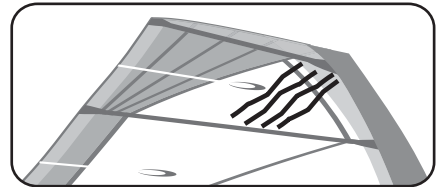

Figure 9: Downhaul just until the diagonal wrinkles disappear.
a) Before downhauling, observe the diagonal wrinkles in the Tri-Lite cloth between the upper two battens. These wrinkles are located in front of the upper leech stabilizer (figure 9).